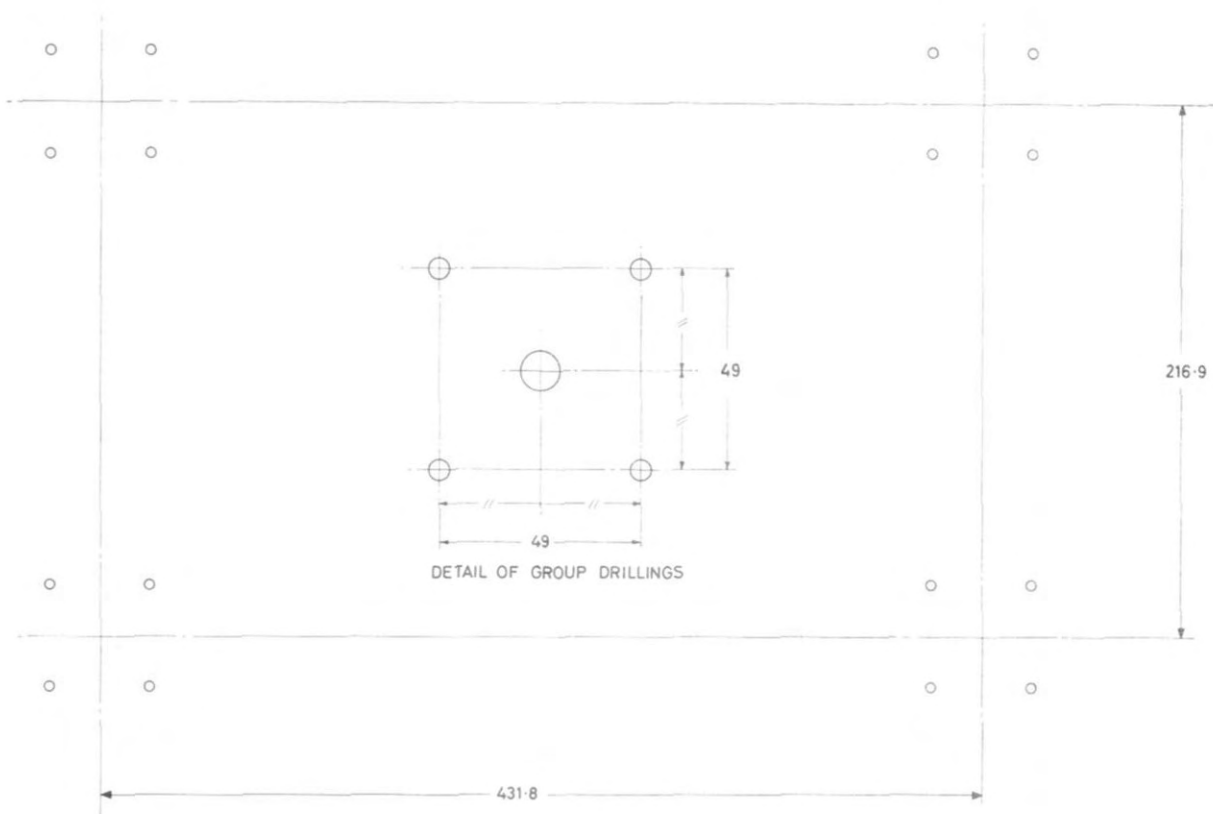

Fig. 2.2. Drilling details for fixing Anti-Vibration Mountings Cat. No. 1547.
2. If access to the underside of the mounting surface (ie the bench or shelf) is available, drill 16 clearance holes on the centres shown in Fig. 2.2 to enable the anti-vibration mountings to be bolted to the surface. If access to the underside of the surface is not available, these holes must be drilled and tapped to take suitable hexagon-headed screws.